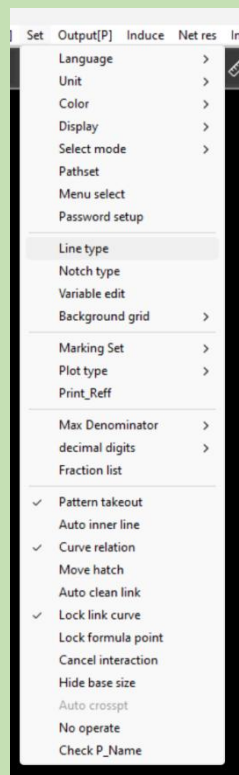

Figure 2-4
5.Settings: Software settings, nesting settings (Figure 2-4).